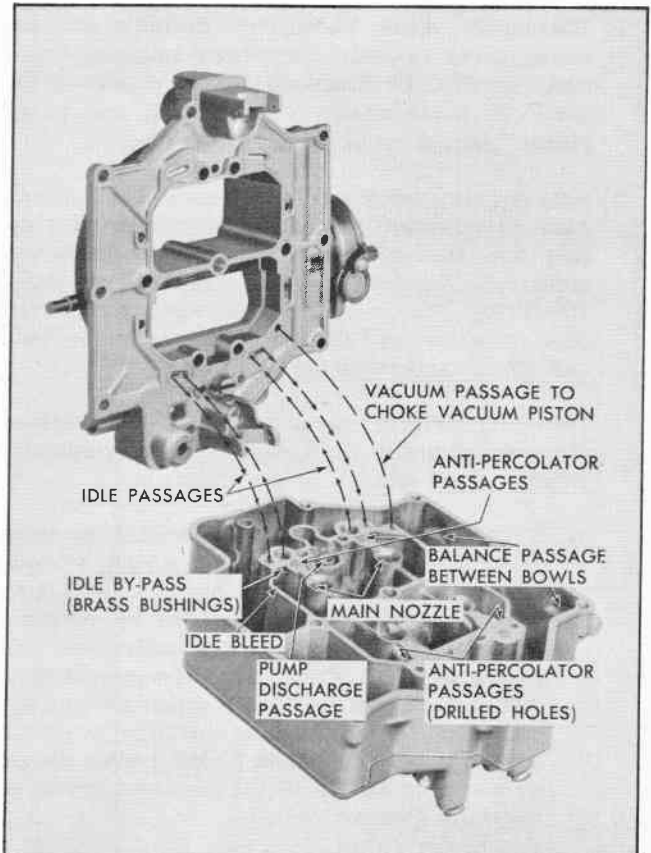

Fig. 15 Passage Identification - Body to Air Horn
2. Blow out all passages (Figs. 15 thru 17) in casting with compressed air and blow off all parts so they are free of cleaner (Be sure to follow instructions furnished with cleaning solution). CAUTION: Do not use drills or wire to clean out jets or ports as this may enlarge the opening and affect carburetor operation.